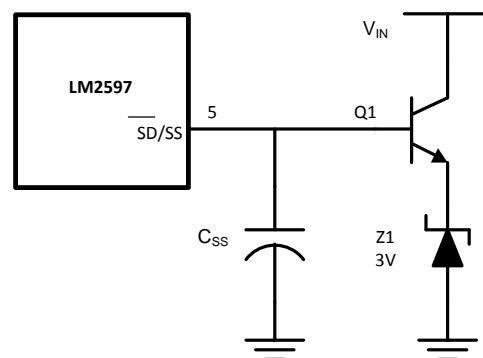

Figure 32. External 3.7-V Soft-Start Clamp
4. Normal operation – Above 2.8 V, the circuit operates as a standard Pulse Width Modulated switching regulator. The capacitor will continue to charge up until it reaches the internal clamp voltage of approximately 7 V. If this pin is driven from a voltage source, the current must limit to about 1 mA. If the part is operated with an input voltage at or below the internal soft-start clamp voltage of approximately 7 V, the voltage on the $\overline{\text{SD/SS}}$ pin tracks the input voltage and can be disturbed by a step in the voltage. To maintain proper function under these conditions, TI strongly recommends clamping the $\overline{\text{SD/SS}}$ pin externally between the 3-V maximum soft-start threshold and the 4.5-V minimum input voltage. Figure 32 is an example of an external 3.7 V (approximately) clamp that prevents a line-step related glitch but does not interfere with the soft-start behavior of the device.